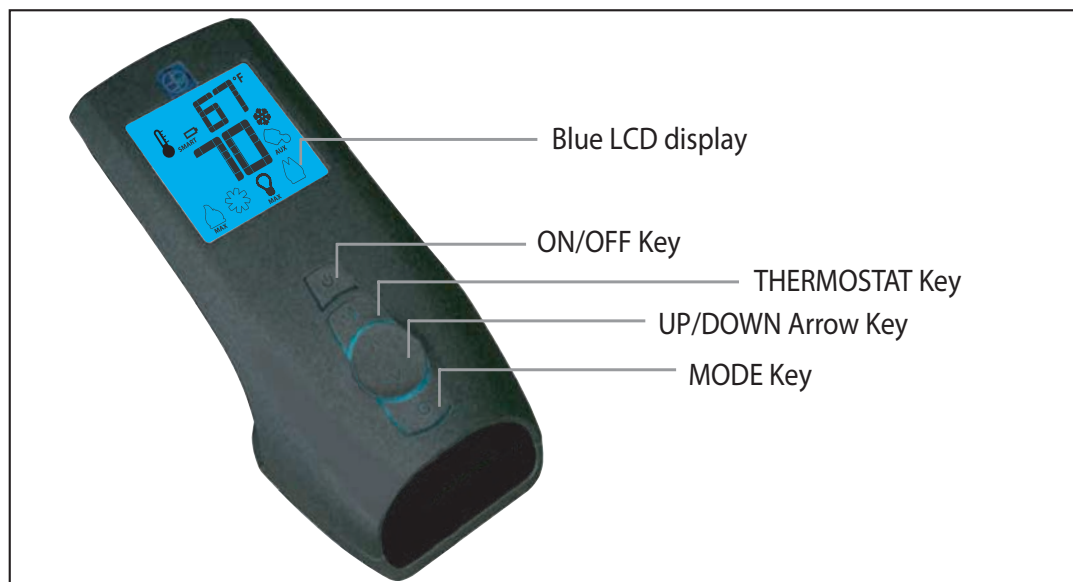
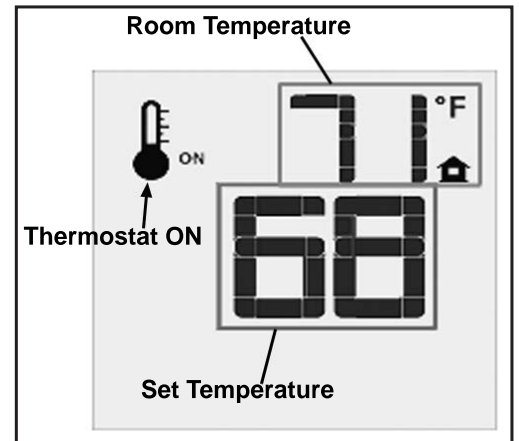
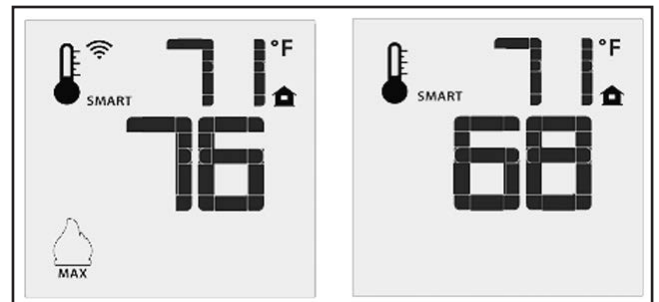

Figure 5: Proflame 2 Transmitter.
Figure 9: Remote Control Displays Set Temperature.
Figure 10: Remote Control's Smart Flame Function.
The Proflame 2 Transmitter is a remote control with a blue backlit lcd display. It uses a streamline design with a simple button layout and informative lcd readout (Figure 5). The Transmitter is powered by three (3) AAA type batteries. A Mode Key is provided to Index between the features and a Thermostat Key is used to turn on/off or index through Thermostat functions (Figure 5 & 6).
Press the ON/OFF Key on the Transmitter. The Transmitter LCD display will only show the room temperature and Icon (see Figure 9). A single “beep” from the IFC confirms reception of the command and both the pilot light (if the unit is not set to continuous pilot) and main burner will turn off.
The Remote Control can operate as a room thermostat. The thermostat can be set to a desired temperature to control the comfort level in a room. To activate this function, press the Thermostat Key (see Figure 5). The LCD display on the Transmitter will change to show that the room thermostat is “ON” and the set temperature is now displayed (see Figure 9). To adjust the set temperature, press the Up or Down Arrow Keys until the desired set temperature is displayed on the LCD screen of the Transmitter.
The Smart Thermostat function adjusts the flame height in accordance to the difference between the set point temperature and the actual room temperatures. As the room temperature gets closer to the set point the Smart Function will modulate the flame down. To activate this function, press the Thermostat Key (Figure 5) until the word “SMART” appears to the right of the temperature bulb graphic (Figure 10). To adjust the set temperature, press the Up or Down Arrow Keys until the desired set temperature is displayed on the LCD screen of the Transmitter.
The E33 comes with a convection fan that can be controlled with the Transmitter. The fan speed can be adjusted through six (6) speeds. To control the fan press the MODE key (Figure 5) to index to the fan control icon (Figure 12). Use the UP/DOWN arrow keys to turn on, off, or adjust the fan speed (Figure 12). A single beep from the IFC will confirm the command has been received.